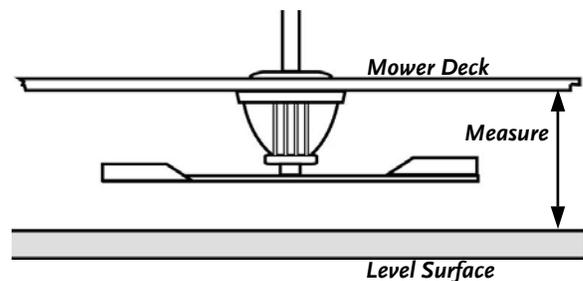

Figure 24
1. Measure the distance from the ground to the Deck at the front and rear of the Deck (**Figure 24**).
1. Measure the distance from the ground to the Deck on the left and right sides of the Deck (**Figure 24** on page 33).